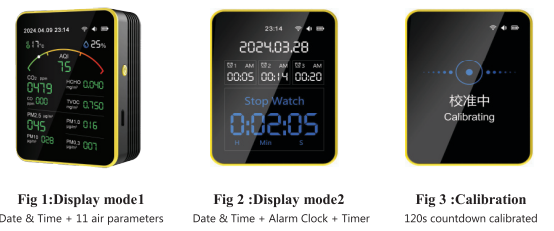

Fig 1:Display mode1
- Press and hold the "Power button" for more than 3 seconds -- power on,count 60 seconds after power on, after countingit will start to detect and display the current air quality parameters, such as Fig 1: 11 air parameters are displayed;
- Short press the "Power button" for 1 time -- In Fig 1, you can switch the temperature unit(Celsius / Fahrenheit); In the interface of Fig 2, you can turn on the timer or timer function.
- Press the "Power" button 2 times -- In the interface of Figure 1, you can turn on/off the buzzer; In the interface of Fig.2, you can clear the timer or the timer; When the timer/ alarm is sounding, you can prioritize to turn off its alarm sound.
**6. Date & time display**: When the device is successfully connected to the Doodle Smart APP (WiFi), the time and calendar parameters will be synchronized with the data on the mobile APP without additional settings. The date and time are shown in both Fig 1 and Fig 2 interface, this time is 24-hour system.
**8. Timer display**: In Figure 1, press the button times to Figure 2;